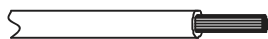

Fig. 16 — Stripping the Wire
2. Strip a suitable length of the insulation layer as shown in Fig. 16 below.